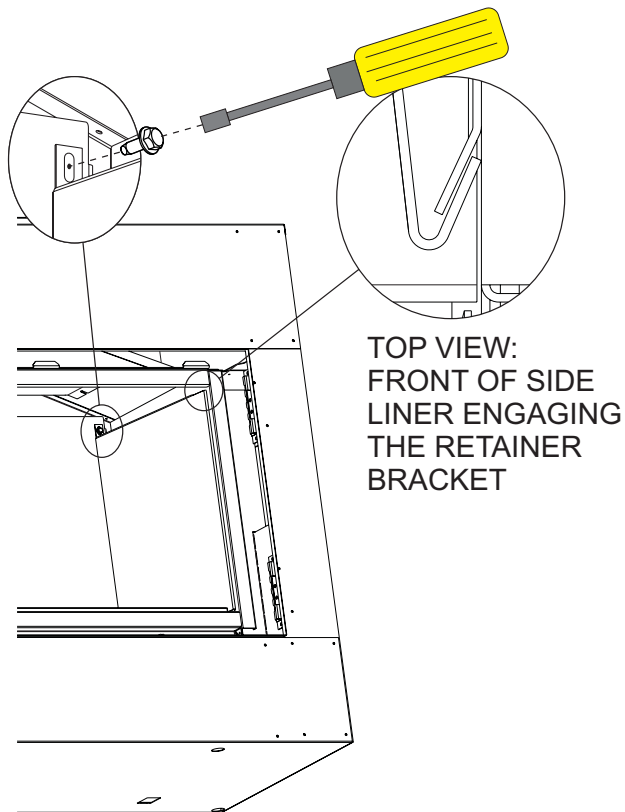

Figure 6
6. Once the panel is properly positioned, install one 5/16 X 1/2" screw through the top extended tab into the pilot hole located at the top right corner of the Rear liner panel to secure. **See Figure 6.**